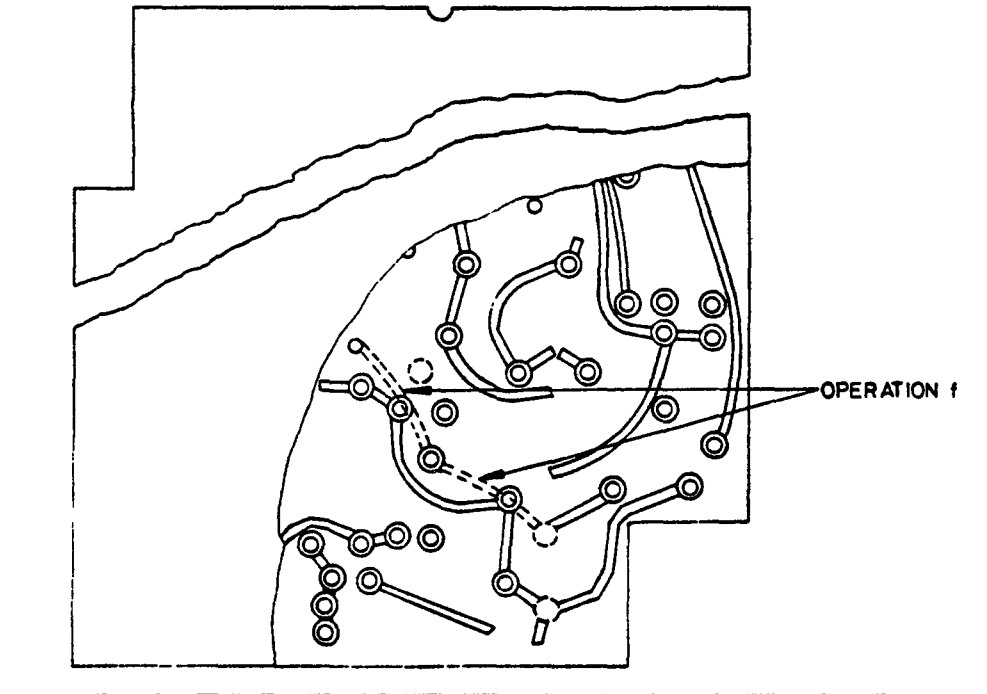

Fig 2 - Operation f.
- (1) On failure or repair of the 2nd l.o. implement this modification..-
- (2) Strike off figure 2 (Two) on the modification record plate of Board 5.
- (3) Complete AF G1084A when reporting completion of the modification to the Data Centre. The exact FORWARD coding to be used is as follows:
- e. Measure and cut two lengths of wire, and sleeve with insulation sleeving (see Fig 2).
- f. Locate and solder in position the two wires prepared in e. as indicated in Fig 2.
- g. Record the embodiment of this modification by diagonally painting through with the red paint figure 2 (Two) on the modification record label of board 5.